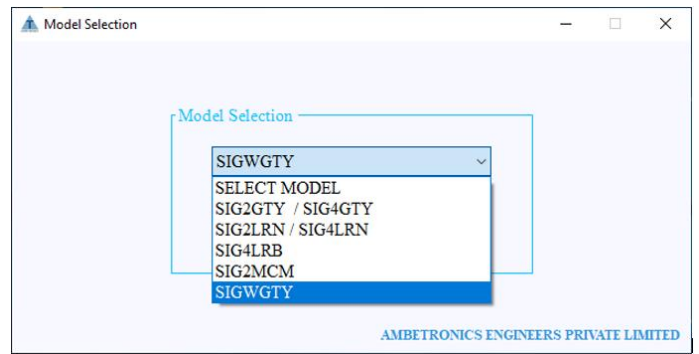

Figure 15
- Select the specific model number from the drop-down list as shown in Figure 15 and click  on button as shown in Figure 15